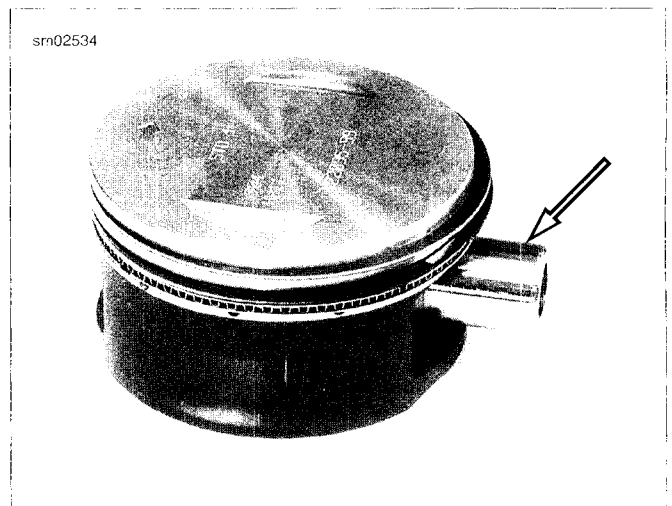

Figure 3-118. Piston Pin Clearance
1. See Figure 3-118. Check piston pin. Pin must slide without binding.